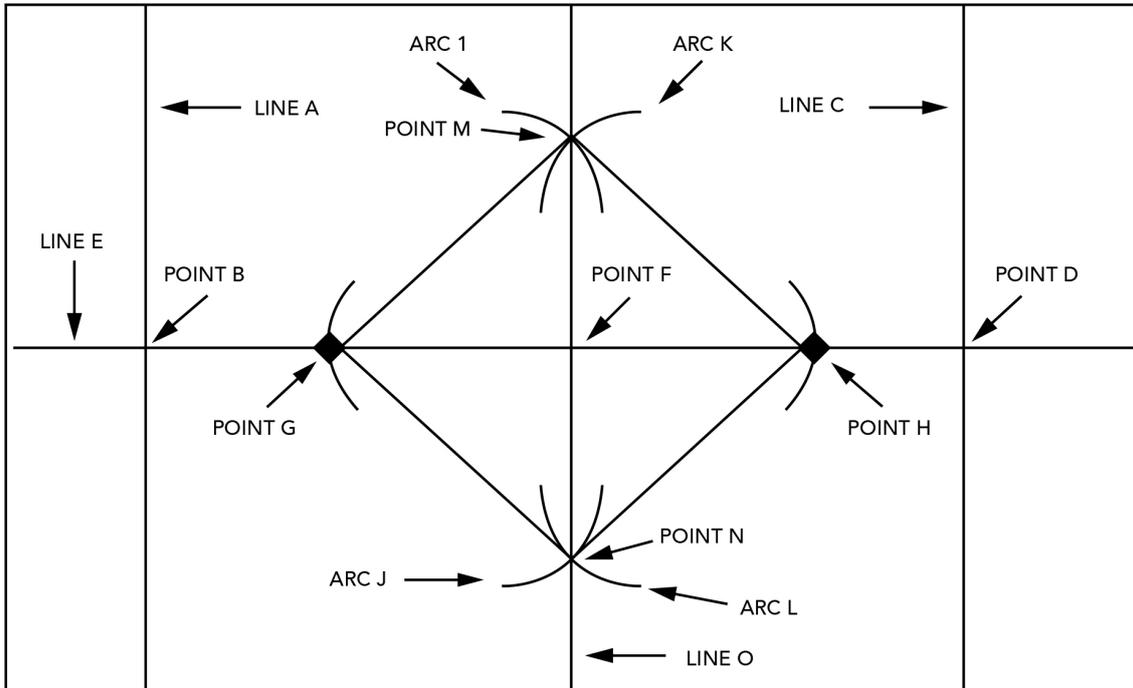

Figure 1
1. Begin on the left side from the center of the room, measure the from top to bottom (Marked Line A in Fig.1 on page 5).
6. Measure the room for center and strike the main control, perpendicular and diagonal reference lines using the trammel point method described previously and shown above and Fig.1 (page 5).